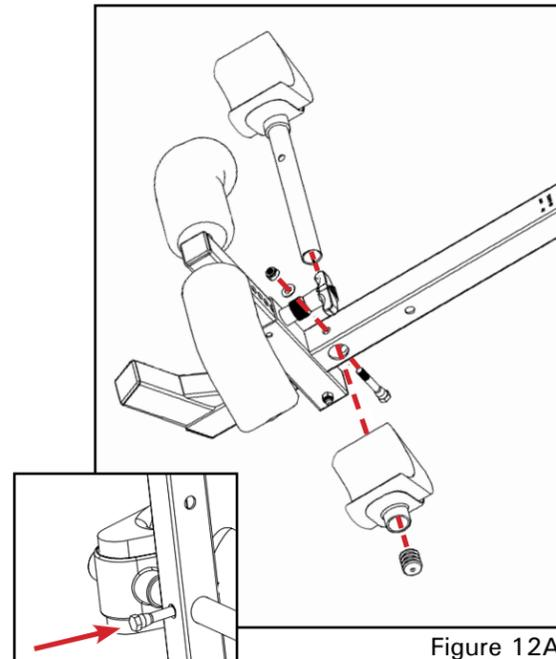

Figure 12A
- With the rounded corners of the rear foam ankle piece facing down, insert the rear bar with one ankle clamp into the large hole at the bottom of the main shaft (Figure 12A).